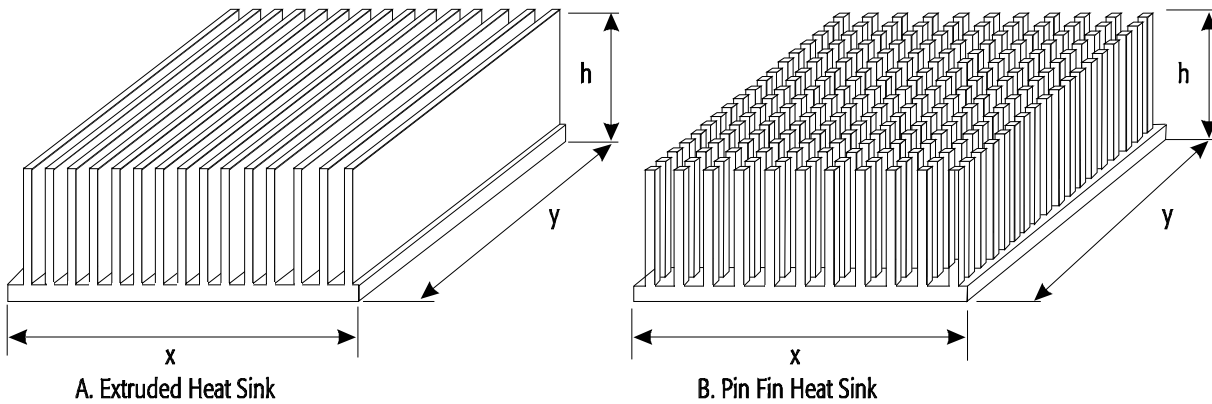

Figure 3. Extruded and Pin Fin Heat Sinks
The example in Figure 3A has a base plate and 15 fins. The base plate would have a layer of thermal interface material applied to it (e.g., thermal grease) and then be mounted against the top of the AMD-K5 processor ceramic case top. The dimensions of the heat sinks in Figure 3 are represented by x and y for the base and h for the height.
4) Size x, y, h	Base plate approximately 2-inch square, and height dependent on application. See Figure 3 for more information.